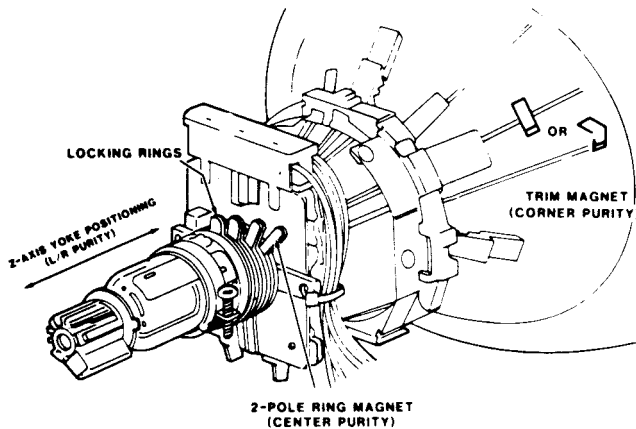

Fig. 1 - Purity Adjustment Locations
- a. Adjust the yoke Z-axis (See Fig. 1) to obtain equal blue circles.
9. After correct purity is set, tighten the yoke clamp screw and remove the two (2) screen magnets.
14. Turn on the receiver and check the purity by holding one (1) round magnet at the 3 o'clock and a second round magnet at 9 o'clock position. If purity is not satisfactory, repeat steps 8 through 14.